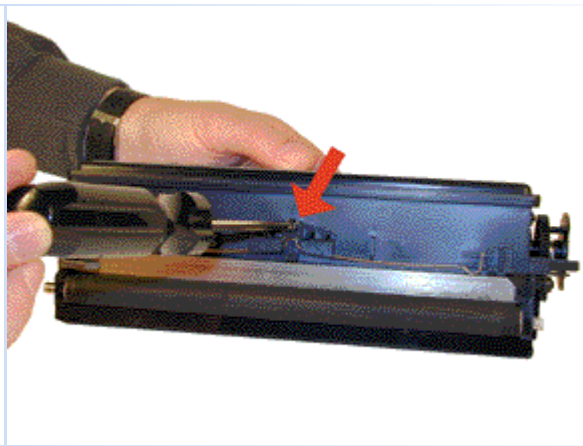

FIGURE 13
10. Remove the doctor blade spring and holder. See Figure 13